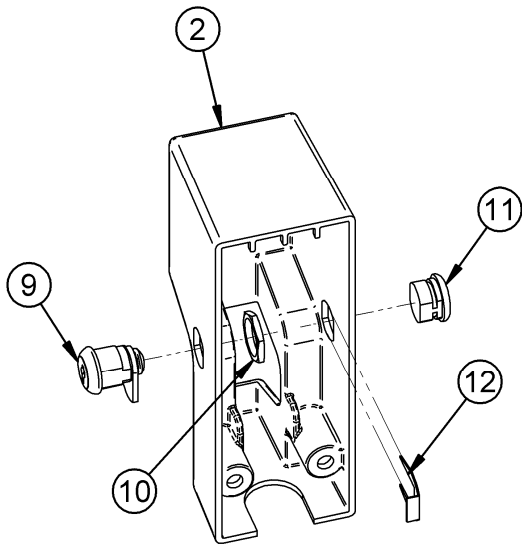

Figure 8 – Cam Lock & Plug Installation
The Gate Lock provides for the additional function of a key operated (cam type) manual override for use when the lock is operated in the **fail locked mode**. The key operated cam lock can be assembled to either side of the lock cover. **Figure 8** and the following instructions describe the proper installation of the cam lock and the cam lock hole plug.
3. Slip the cam lock mounting hex nut (**Item #10**) over the cam inside the cover and thread the nut onto the cam lock body by hand (See **Figure 8**).
1. Insert the cam lock hole plug (**Item #11**) through the desired hole in the lock cover (See **Figure 8**).